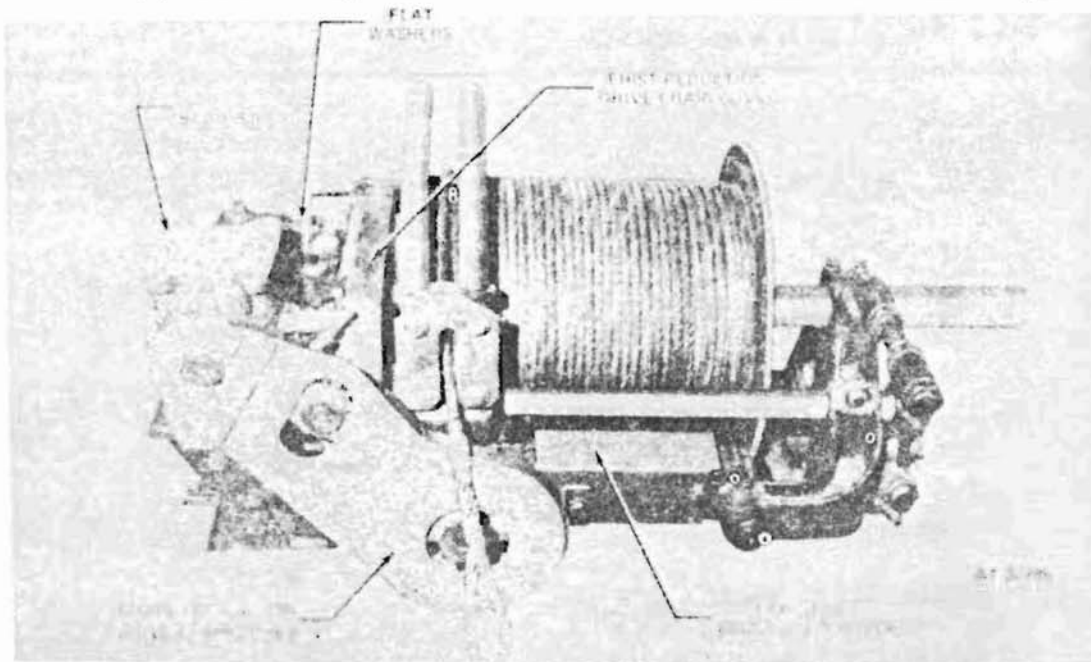

Figure 457. Cable level winder chain covers - rear winch.
lockwashers, attaching first reduction drive chain cover (fig. 457) to winch clutch fork shaft bracket and speed reducer bearing retainer. Be certain not to lose the flatwashers (fig. 457) between clutch fork shaft bracket and worm housing; remove chain cover.
- (a) Remove cap screw and lockwasher, attaching second reduction drive chain cover (fig. 457) to speed reducer. Remove cap screw, lockwasher, and flatwasher attaching cover to crosschain cover; remove chain cover.
- (a) Remove second reduction drive chain as described in c (1) above. Remove the four cap screws, lockwashers, and flatwashers securing cross-chain cover (fig. 457) to cross-chain brackets; remove cover.